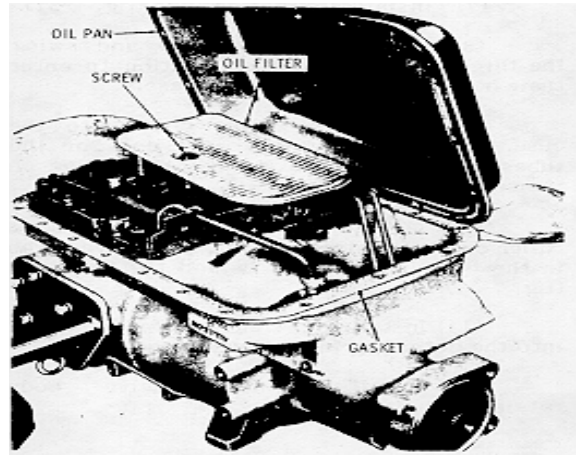

Fig. 7-33. Installing transmission oil pan
(1) Position the oil pan gasket on the transmission housing, aligning its bolt holes with those in the housing (Fig. 7-33).
(2) Position the oil pan on the transmission housing, as shown in B, foldout 9.
(3) Retain the oil pan with twenty-one 5/16-18 x 5/8-inch washer-head screws (Fig. 7-33). Tighten the screws evenly to 10-13 lb ft (14-18 N•m).